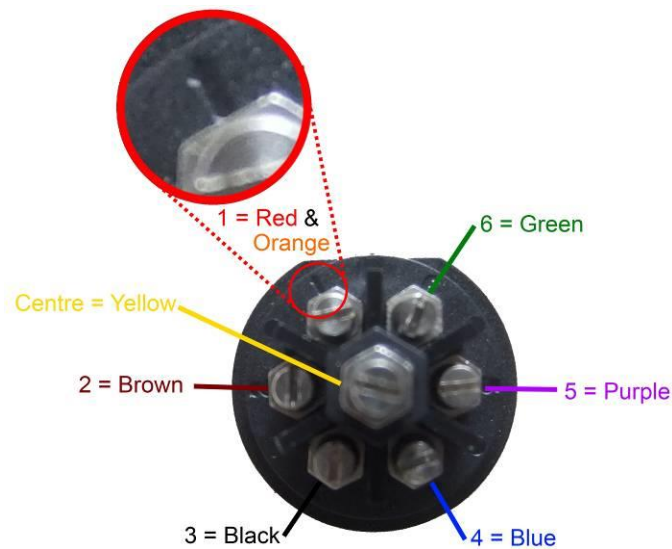

Figure 18 Contact Insert Screw Terminals
- v. One-by-one, insert each of the 8 wires into the Contact Insert Screw Terminals and screw them in. Use *Figure 18* to determine the correct wiring order.